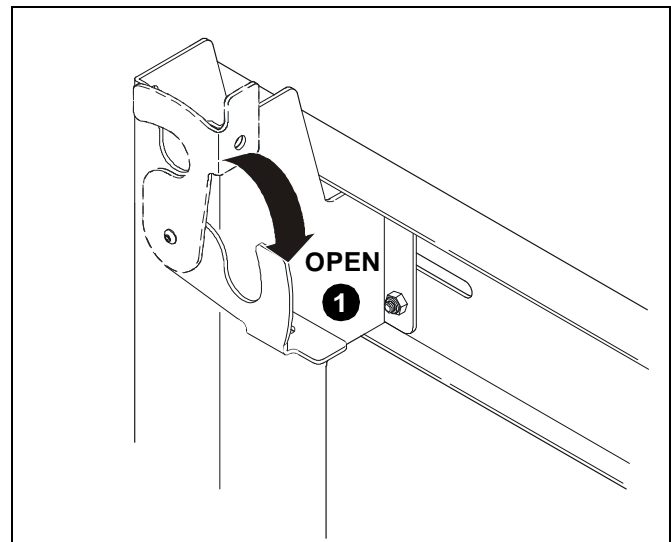

Figure 4
1. Move locking flags on mount to the OPEN position. (See Figure 4)